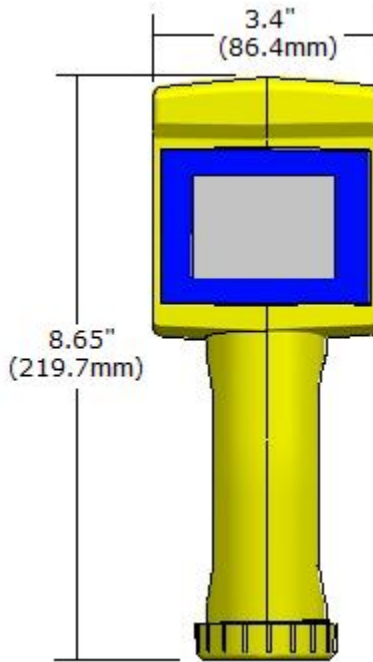
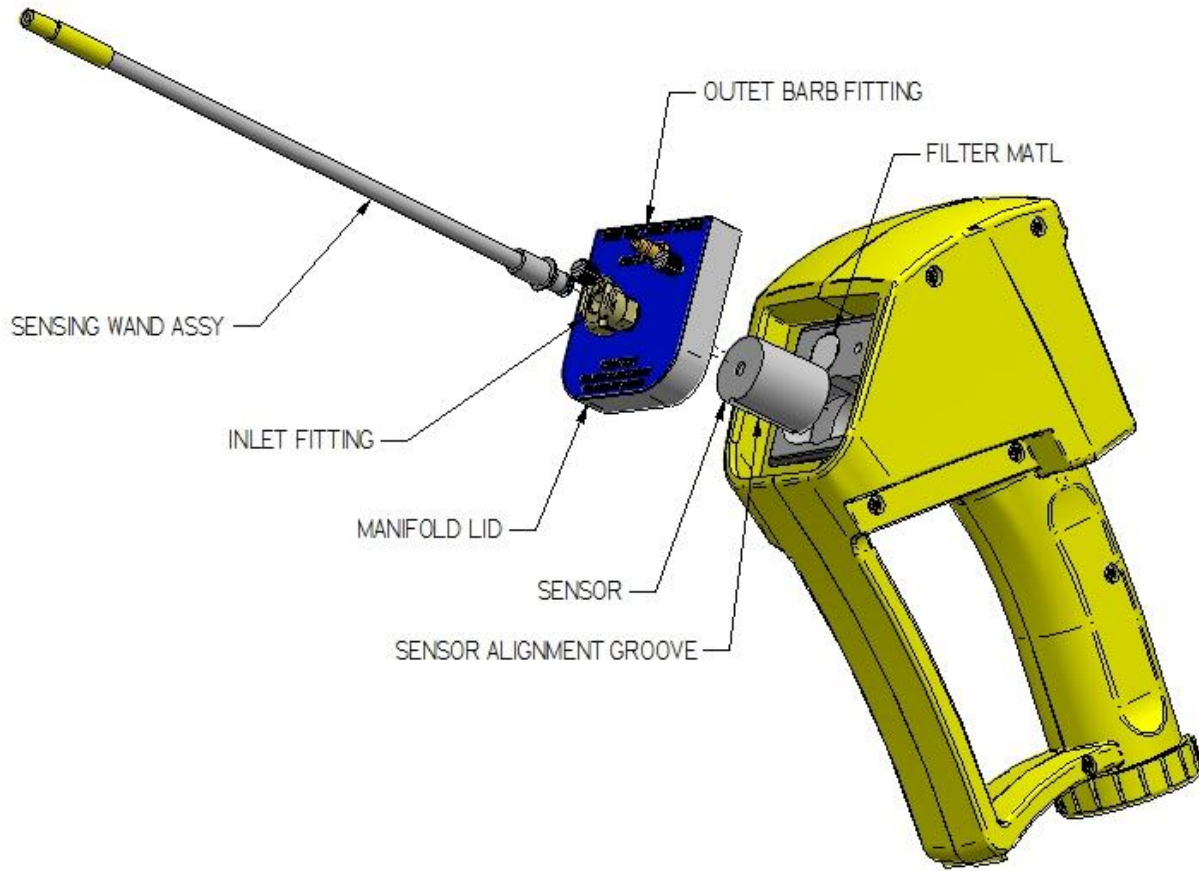

Figure 1. PortaSens III, front view.
Figure 2. PortaSens III, rear view.
- *D16 PortaSens III* Portable Gas Leak Detector (Figure 1)
- (2) D-cell, NiMH batteries
- Sampling wand (Figure 2)
- Outlet tube barbed fitting (Figure 2)
The inlet port, located on the manifold lid, is fitted with a quick-disconnect fitting to connect the flexible wand (see Figure 2 on page 8). The wand can be used for probing closely around pipes and fittings, and for sampling confined spaces without entering. The wand is lined with Teflon™ and is inert to nearly all vapors and gasses.
Loosen the two thumb screws on the back of the D16 and remove the manifold shown in Figure 2 on page 8 and. If a sensor module is already installed, pull straight up to remove it. Insert the new sensor module into the recess, connector end first. Rotate it to align the groove with the guide pin, and then press down to seat the connector. The top of the sensor module should be flush with the top of the opening. Replace the manifold and hand-tighten the thumb screws.